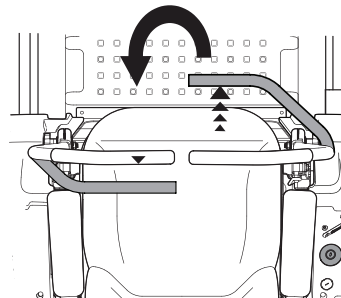

Figure 33
3. To turn counter-clockwise, move the right control lever forward while simultaneously moving the left control lever rearward (Figure 33).